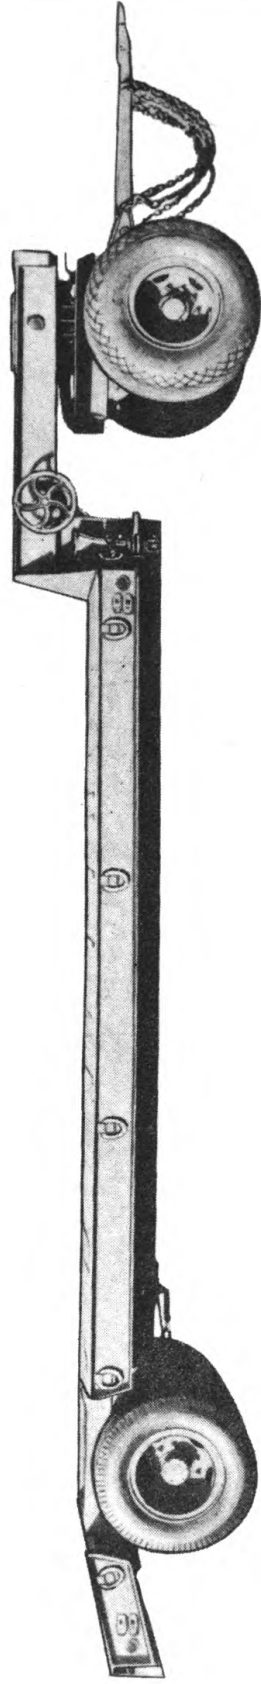

Figure 1—The Model LKD-620 Trailer
1. This trailer, of 20-ton capacity, may be used as a full trailer (figure 1) and be drawn by a heavy-duty truck, or as a semi-trailer (figure 3) and be drawn by a truck-tractor. Two vehicles comprise the trailer, the main unit or trailer proper and a dolly truck (figure 4) on which the trailer front end may be mounted for use as a full trailer. Two loading ramps are supplied to facilitate loading and unloading of equipment to be hauled.